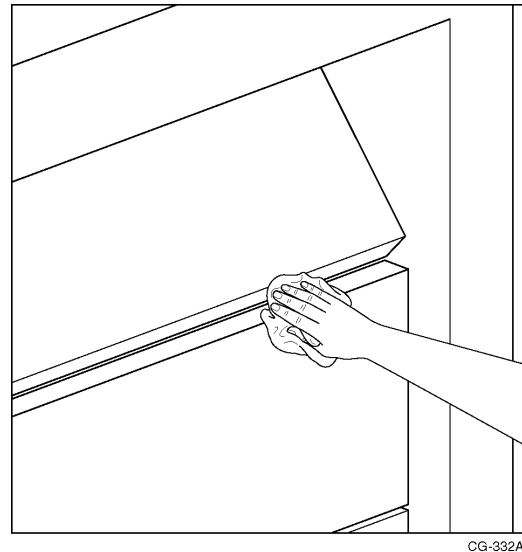

Figure 26 Cleaning the Door Fold Seams
1. Make sure that the inside of the door seam is washed clean and then dried. Lift the door enough to thoroughly clean the top and bottom lips of the panels. See Figure 26.